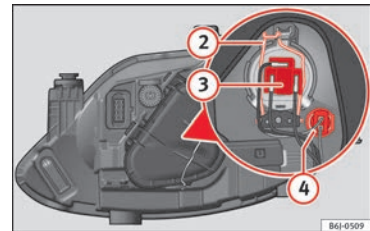

Fig. 86 Dipped beam/main beam and side light of the single headlight.
- Remove connector » Fig. 86 ③ from the bulb.
- Unclip the retainer spring » Fig. 86 ② pressing inwards to the right.
- Extract the bulb holder » Fig. 86 ④ outwards.